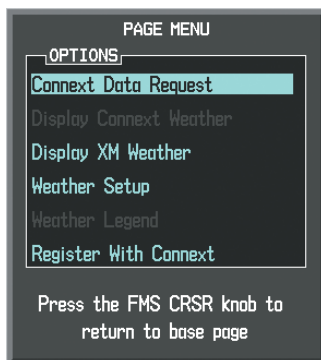

Figure 6-65 Weather Data Link (CNXT) Page Menu
- 3) With 'Connex Data Request' highlighted, press the **ENT** Key (Figure 6-65).